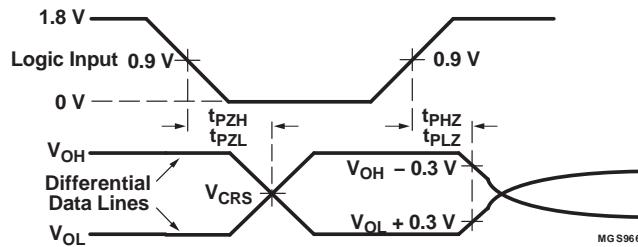

Figure 2. \overline{OE} to D+, D–
(1) Test circuit, see Figure 2
(2) Driver timing in low-speed mode is not specified. Low-speed delay timings are dominated by the slow rise/fall times t_{LR} and t_{LF} .